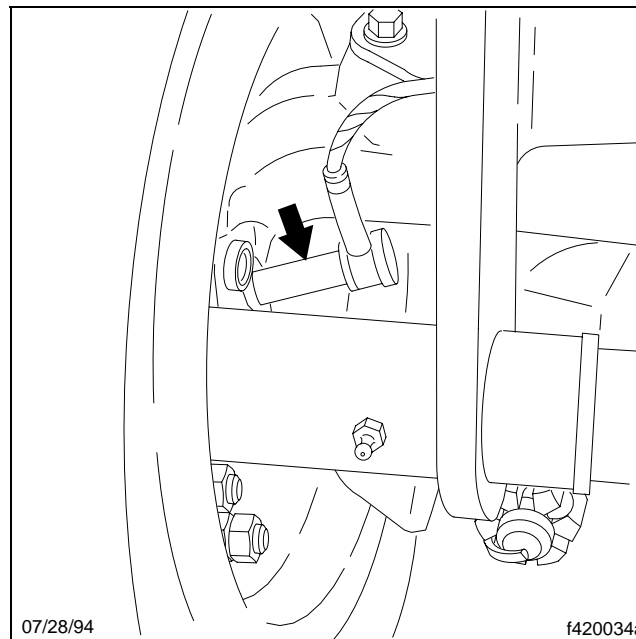

Fig. 2, Front Wheel Speed Sensor Removal (typical)
- Remove the ABS sensor and wiring from the brake spider and cut any zip ties that connect the harness to the brake components. Secure the sensor and the wiring out of the way. See **Fig. 2**.
Place the assembly on the axle flange. Install the mounting fasteners with hardened washers under the bolt head and nut. See **Fig. 2**. Tighten the capscrews in a cross pattern to the specifications in **Table 4**.